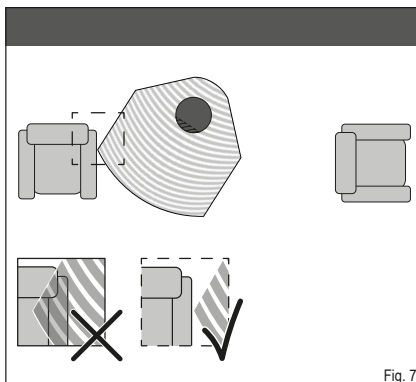
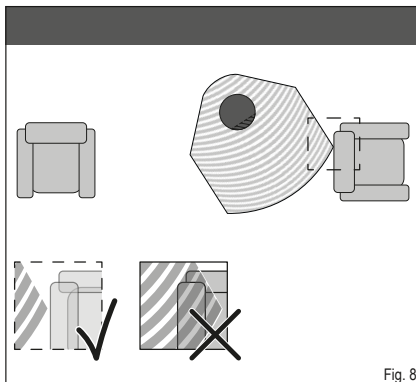

Fig. 7
Fig. 8
- Flammable materials, e.g. furniture, must not be located within the radiation range of the stove at the set radiation area (Fig. 7 and Fig. 8).